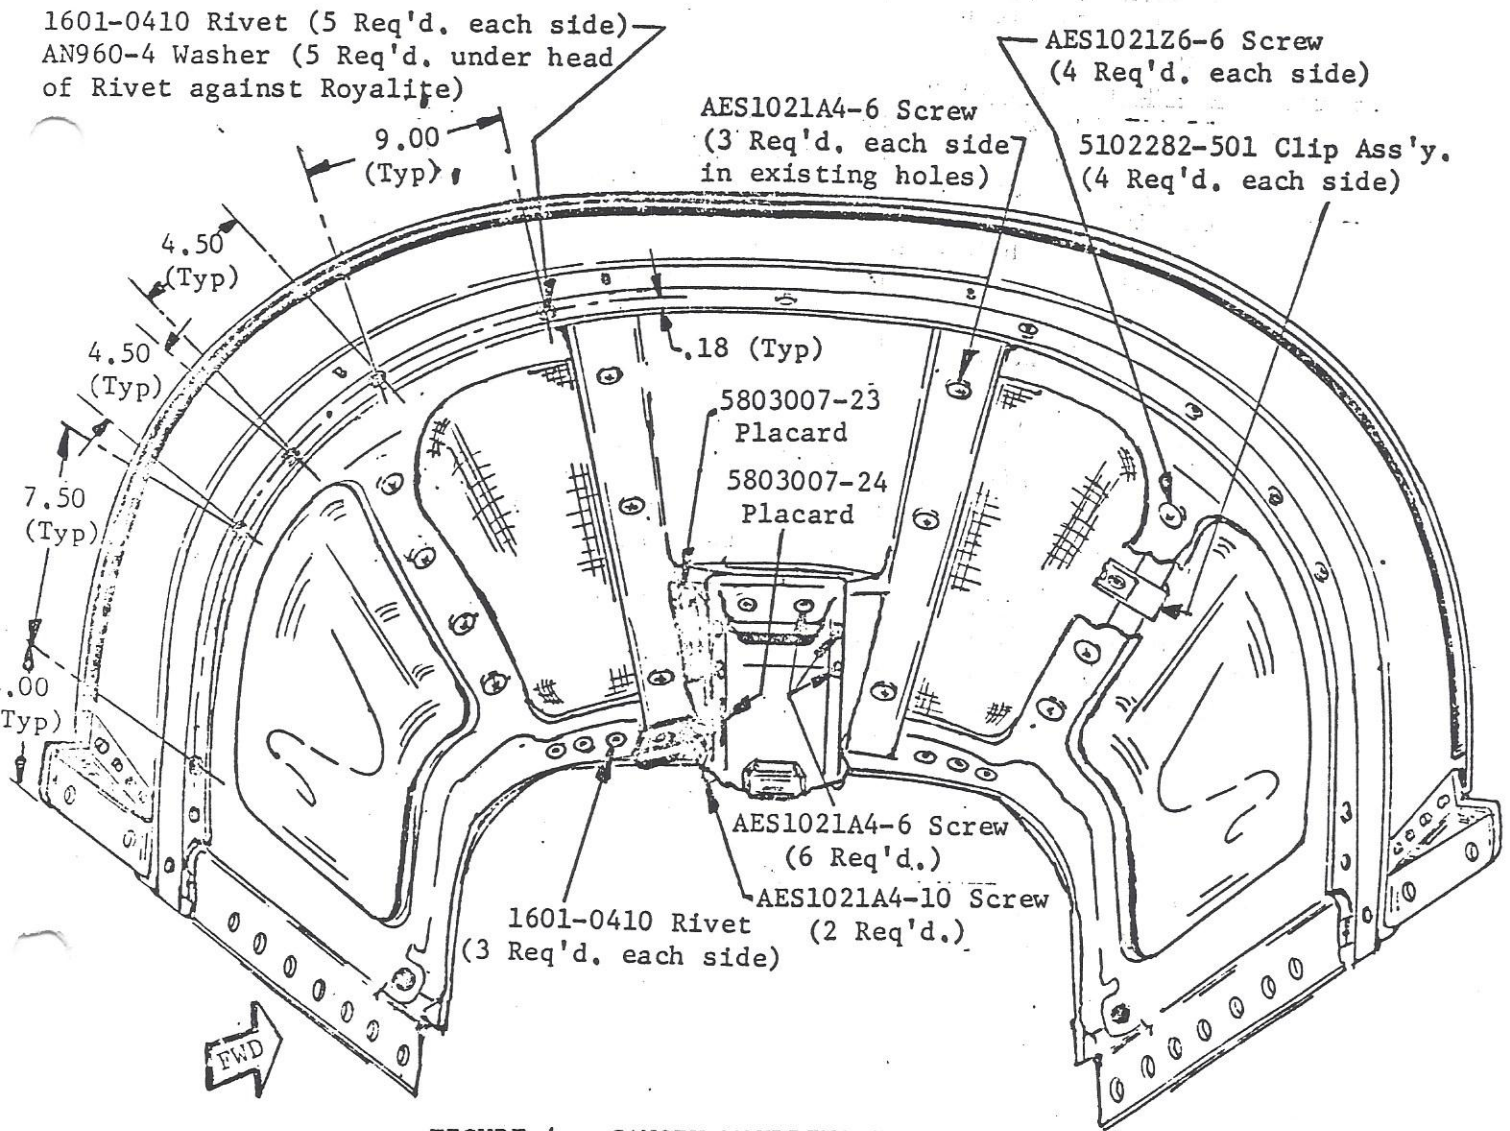

FIGURE 4. CANOPY MOULDING INSTALLATION
3. Drill ten .136" diameter (no. 29 drill) holes in aft canopy bow as shown in Figure 4 for window moulding attach rivets.
10. Install the three (3) AES1023A4-8C screws and three (3) 1601-0410 rivets in the forward canopy bow to hold the moulding in place on each side as shown in Figure 2 and Figure 4. The rivets must be installed from the inside with the heads against the moulding.
11. Final tighten the four (4) AES1021Z6-6 screws in the moulding above the window on each side.
13. Drill seven (7) .187" diameter holes in each moulding for the canopy track attach screws.
3. Mark location of and drill six (6) .093" diameter holes through moulding to match existing holes in clip brackets along top of canopy where the two original mouldings were attached. Install the six (6) AES1021A4-6 screws as shown in Figure 4.
3. Drill .093" diameter holes as follows: four (4) through the moulding into the back of the grip and two (2) up through the forward corners of the moulding into the box support angle as shown in Figure 4. Locate the side holes  $\frac{1}{2}$ " down from the top edge of the moulding sides and  $1\frac{5}{8}$ " and  $4\frac{1}{2}$ " forward of the aft lip respectively.
4. Install six (6) AES1021A4-6 screws in the sides and back and two (2) AES1021A4-10 screws in the front corners of the latch moulding.
1. Install the 5803007-23 placard ("Close Canopy then Cycle Latch", "Pull to Open" and "Push to Latch"), on the left forward side of the center moulding just above the latch handle as shown in Figure 4. The "Push to Latch" arrow should point forward.